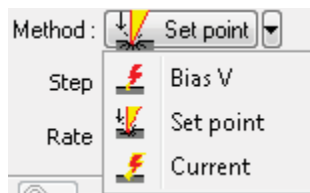

Fig. 13-50. Selecting the lithography method
3. In the drop-down list **Method**, select the desired mode of lithography (Fig. 13-50):